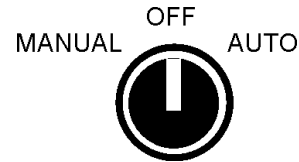

Figure 14. Manual-Off-On SW. (OFF Position)
1. Place the 3-position operation switch on the control box to the **OFF** position (Figure 14).